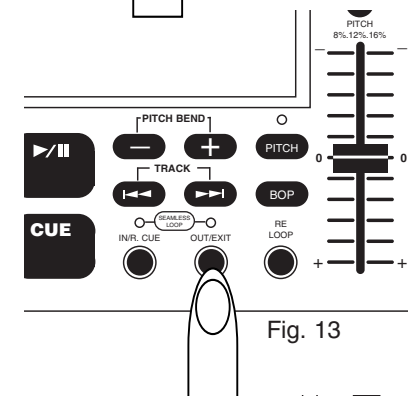

Fig. 13
- 3) Press **OUT/EXIT BUTTON (14)** to set your desired ending point for your SEAMLESS LOOP (Fig 13). The **IN/R. CUE (12)** and **OUT/EXIT (14)** LEDs will begin to flash indicating SEAMLESS LOOP mode has been activated.
To exit a SEAMLESS LOOP, press the **OUT/EXIT BUTTON (14)**. The **IN/R CUE (12)** and **OUT/EXIT (14)** LEDs will remain on, but will stop flashing. Music playback will resume normal play (Fig. 13). The **IN/R CUE (12)** and **OUT/EXIT (14)** LEDs will remain on to remind you that a loop is stored in memory.
- 1) Press the **OUT/EXIT BUTTON (14)** to return to normal play from the the loops cue point. (Fig. 13). This will disengage the SEAMLESS LOOP mode and allows you to edit the loops ending point.
- 2) Press the **OUT/EXIT BUTTON (14)** again when you reach your new ending point (Fig. 13).
- 3) **FOR A SHORTER LOOP:** Press the **OUT/EXIT BUTTON (14)** at sooner point in the track.
- 4) **FOR LONGER LOOP:** Press the **OUT/EXIT BUTTON (14)** at later point in the track.